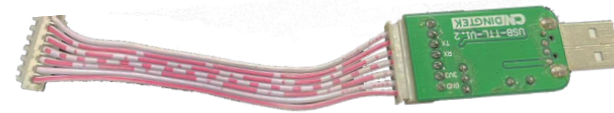

Figure 2.1 TTL tool and cable
- TTL is a complimentary accessory, please check it when receiving the goods. As shown in Figure 2.1;